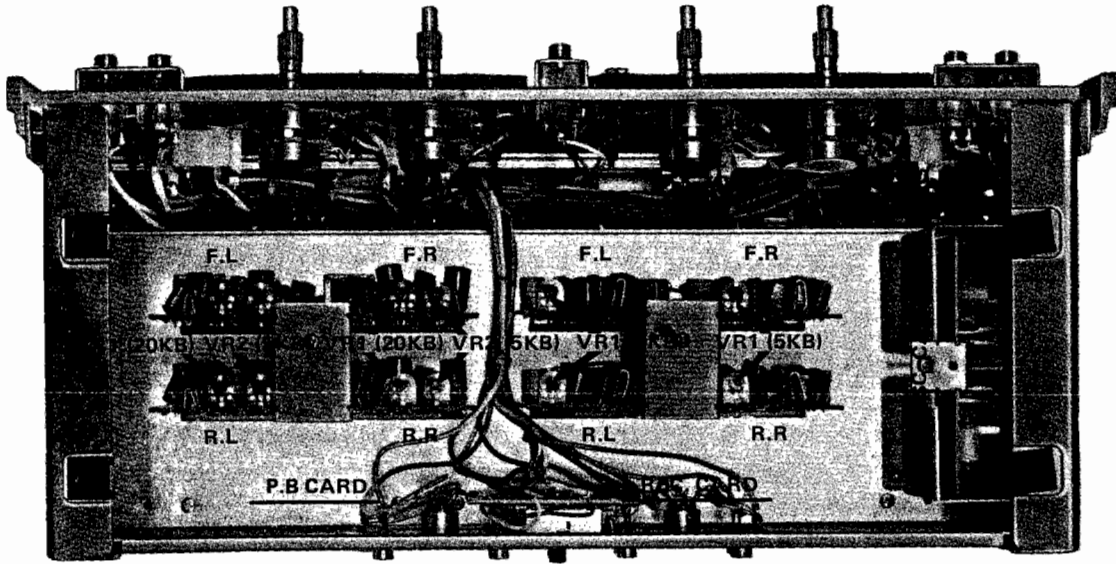

Fig. 24
A. Playback (See Figs. 24 and 25).
- Adjust VR-1 (semi-fixed resistor 20 KB, Fig. 24) of playback amplifier so that the line output voltage is 1.228 V (+4 dB \pm 1.5 dB).
- Adjust VR-2 (semi-fixed resistor 5 KB, Fig. 24) of playback amplifier so that the VU Meter indicates "0" VU.
B. Recording and Playback (See Figs. 24 and 26)